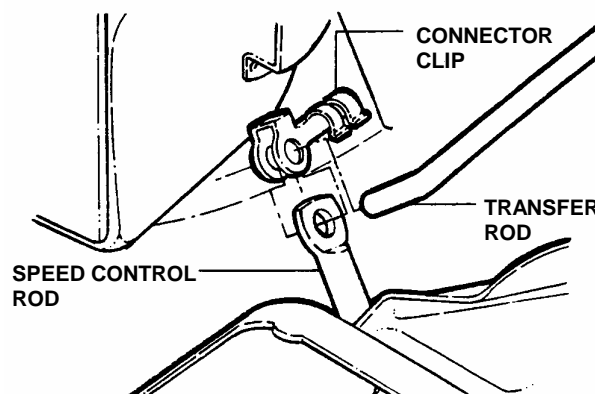

FIGURE 4.11
1. Using a small flat blade screwdriver, free the clip from the transfer rod. Then remove the transfer rod from the clip and the speed control rod. See Figure 4.11.